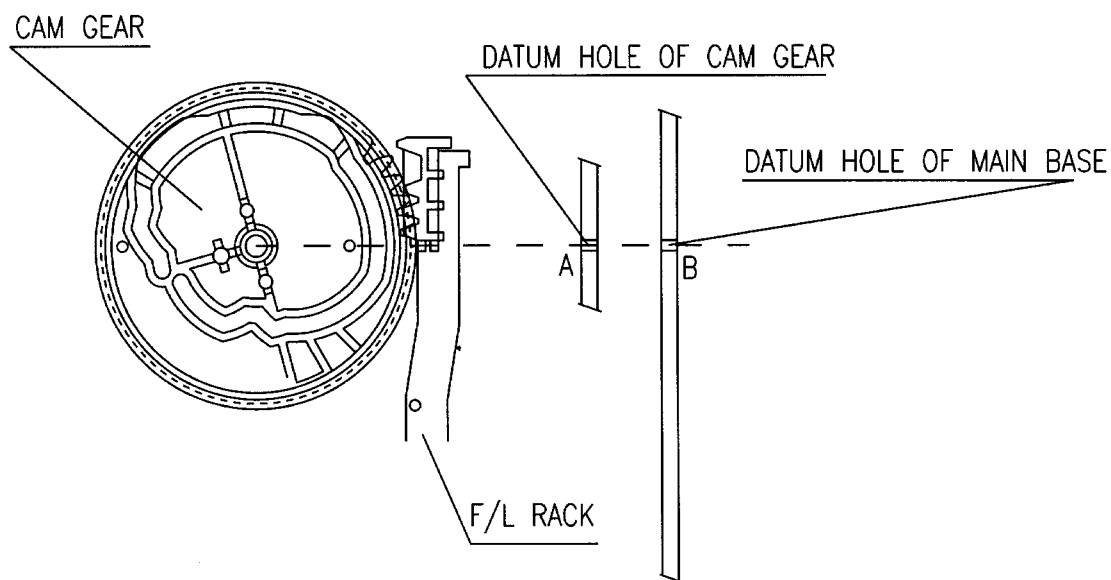

Fig. 1 Mechanical Checks/Cam Gear and F/L Alignment
Mechanical Checks/Gear Alignment (Fig. 1 ~ 5)
MECHANICAL ADJUSTMENTS**Mechanical Checks/Gear Alignment (Fig. 1 ~ 5)**
1. Make sure that the datum hole of the cam gear "A" is aligned with the hole "B" in the main base in the EJECT mode. (Fig. 1)